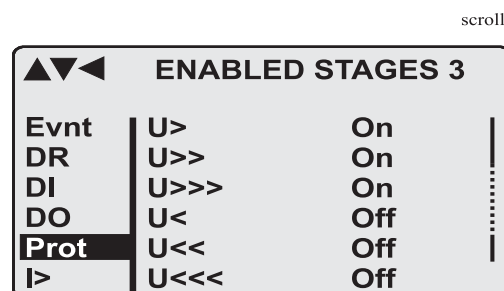

Figure 3.1-1. Example of scroll indication
3. Push the ENTER key to confirm the selected submenu. If there are more than six items in the selected submenu, a black line appears to the right side of the display (Figure 3.1-1). It is then possible to scroll down in the submenu.